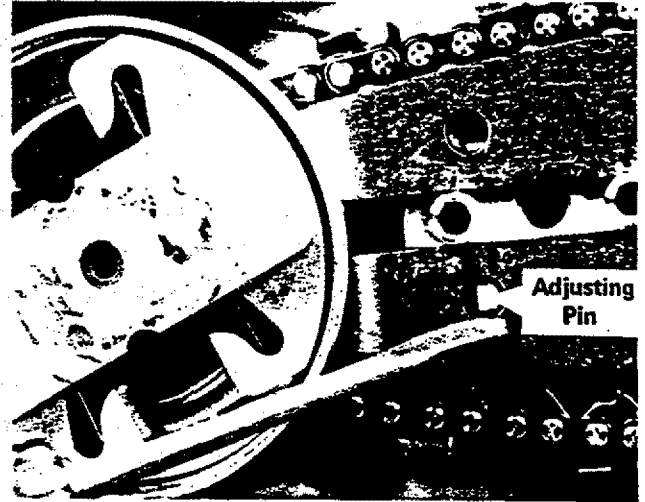
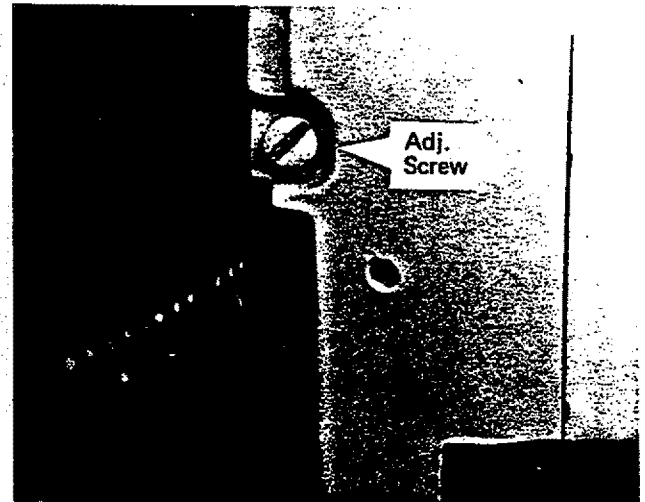

Fig. 4A
Fig. 4B
5. Slide bar forward and fit adjustment hole in bar over adjusting pin. If you have trouble fitting the adjusting pin into the hole, use a small ended screwdriver to guide the pin into the hole. The pin may have to be adjusted backwards or forwards with adjusting screw (Figure 4B) to line up with the hole in the bar. Figure 4A.
7. Raise tip of bar and turn the adjusting screw clockwise to tension the chain. Figure 4B. There should be light tension in the chain, but the chain should move around the bar freely when pulled by hand.